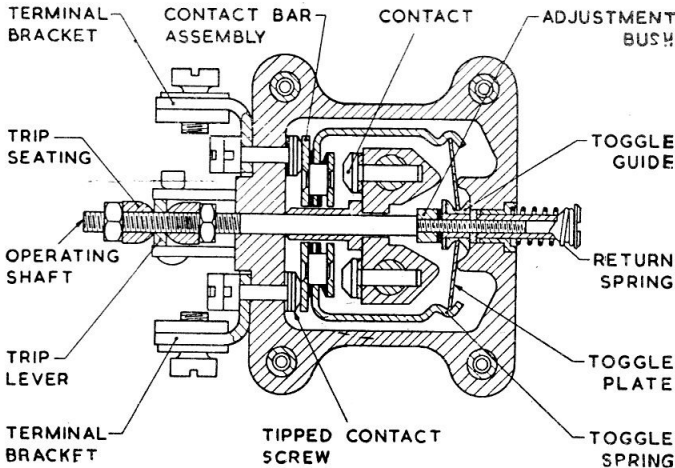

Fig. 2. Sectional drawing of switch
3. The switch is operated by a central longitudinal spindle which carries a toggle guide connected through a toggle plate and spring to a moving contact bar assembly. As the trip lever at the end of the operating shaft is moved outwards, i.e., to the left as shown in fig. 2, the toggle plate is stressed until it passes top dead centre. At this point